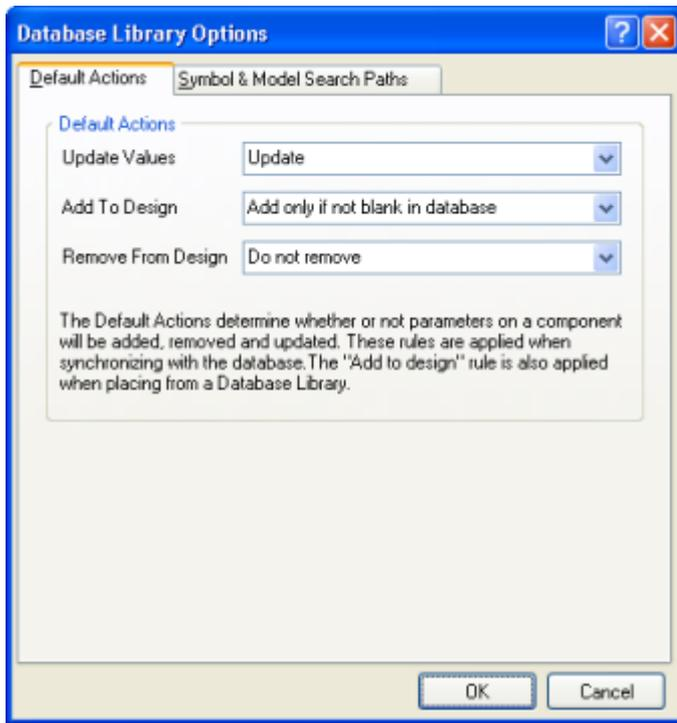

Figure 13. Setting default parameter update options.
- A setting of Default causes an update option to follow its corresponding default definition, as specified on the Default Actions tab (Figure 13) of the Database Library Options dialog (**Tools » Options**). This dialog can also be accessed by clicking the Options button in the Field Settings region of the main window.